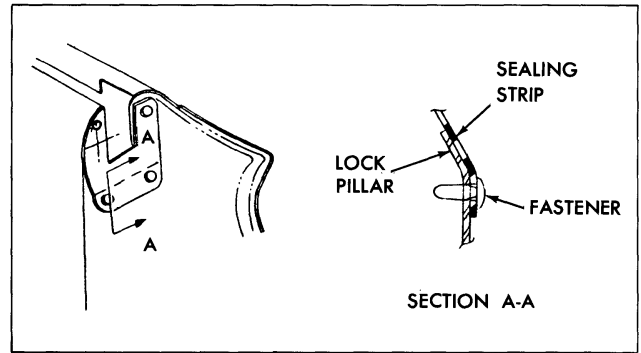

Fig. 3-14 Sealing Strip Snap Fasteners
1. Remove snap fasteners securing sealing strip to lock pillar facing of front door and remove strip assembly (Fig. 3-14)